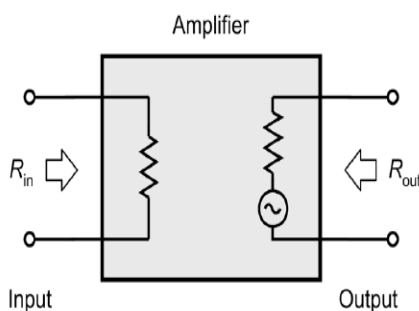

Fig.1.15: Input and output resistances 'seen' looking into the input and output terminals, respectively
- Fig. 1.15 shows how the input and output resistances are 'seen' looking into the input and output terminals, respectively.